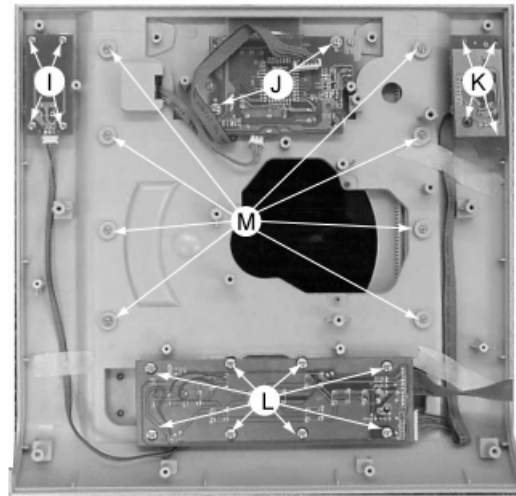

Figure 3
- 4) Loosen 4 screws I (see Figure 3) to remove the Key_C Board.
- 5) Loosen 2 screws J (see Figure 3) to remove the Display Board.
- 6) Loosen 4 screws K (see Figure 3) to remove the Key_B Board.
- 7) Loosen 8 screws L (see Figure 3) to remove the Key_A Board.
- 8) Loosen 8 screws M (see Figure 3) to remove the Door Eject Lever Bracket Right/Left, then remove CD door.